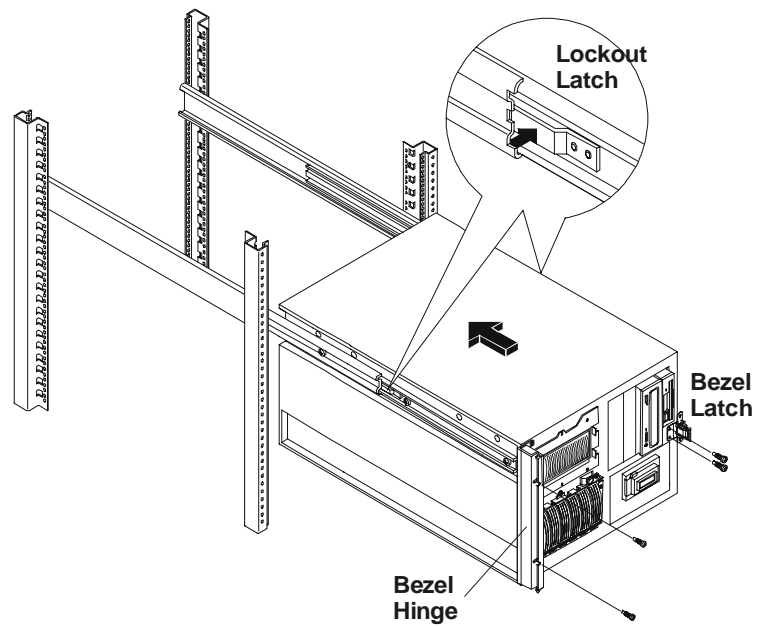

Figure 8-13. Slide Lockout Releases, Bezel Latch, and Bezel Hinge
1. Attach the bezel hinge to the HP NetServer with three screws through the right edge of the bezel hinge and into the left front of the HP NetServer (see Figure 8-13).
3. Depress the slide lockout latches, and push the HP NetServer completely into the rack (see Figure 8-13).